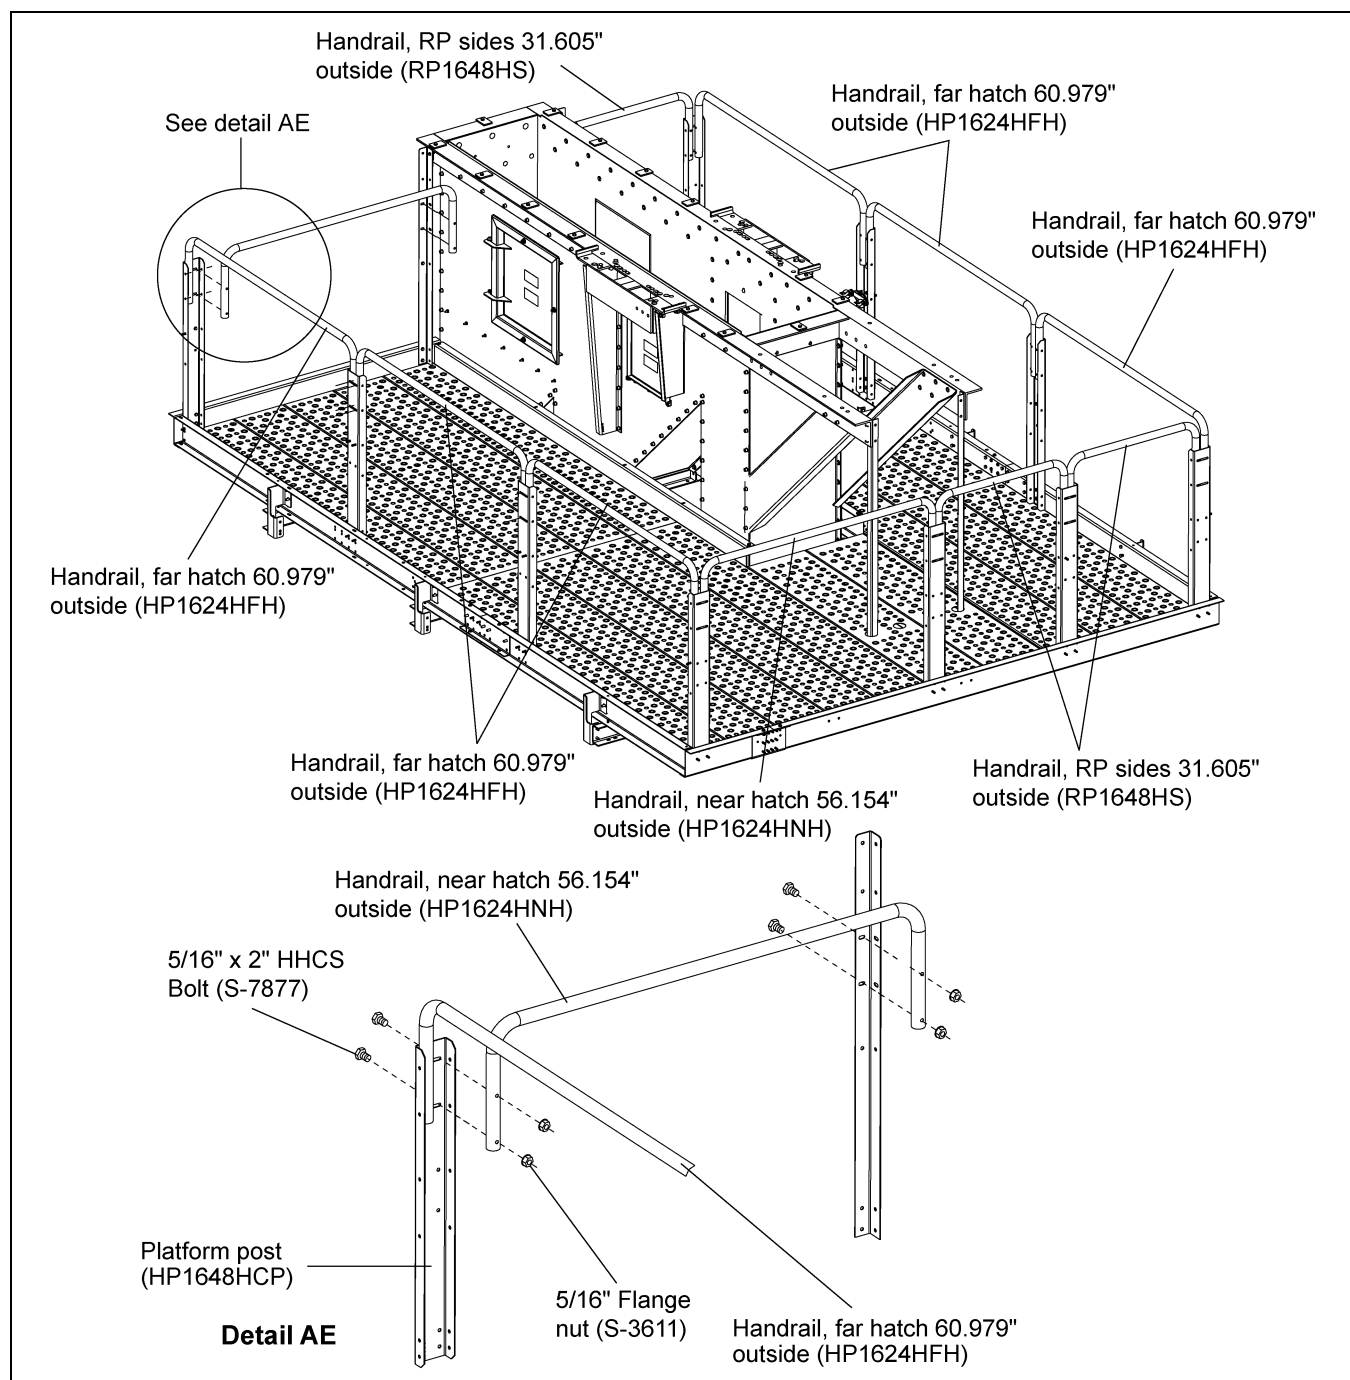

Figure 8P
1. Loosely install hand rails to the top of the posts (HP1648HCP) as shown in Figure 8P using 5/16" x 2" HHCS bolts (S-7877) and 5/6" flange nuts (S-3611).
2. Once all handrails are in place, fully tighten platform posts to the toe boards and fully tighten the handrails to the posts. (See Figure 8P.)